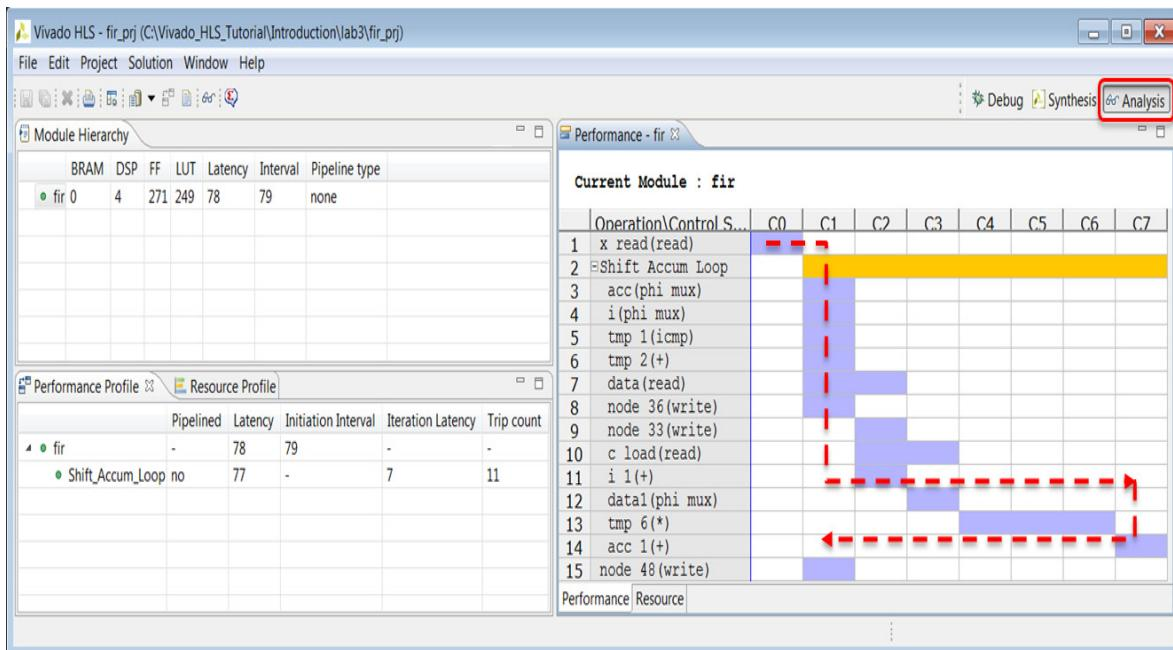

Figure 2-25: Solution2 Analysis Perspective: Performance
While still in solution2, and as shown in Figure 2-25:
- The red-dotted line in Figure 2-25 is used shortly in an explanation; it is not part of the view.
The explanation presented here follows the path of the dotted red line in Figure 2-25. Some of the objects here correlate directly with the C source code. Right-click the object to cross-reference with the C code.